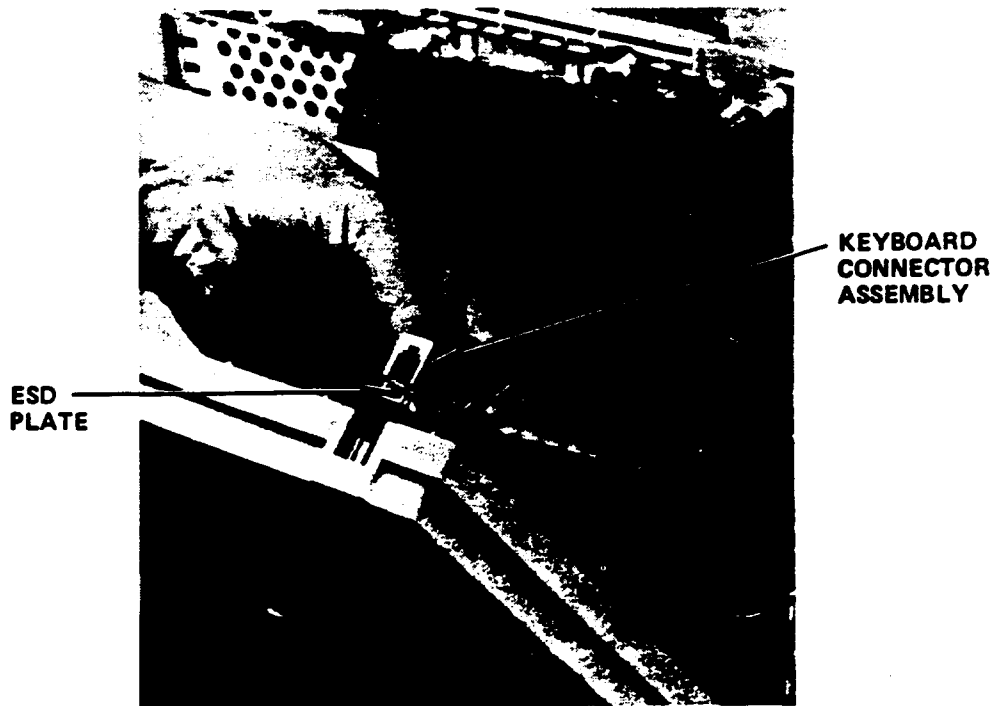

Figure 2-14. Removal of the Keyboard Connector
5. Pull the bottom cover away from the lower monitor assembly and remove the keyboard connector assembly (refer to Figure 2-14).
2. Remove the Keyboard Connector Assembly (jack and jack ESD plate) from the Bottom Cover (refer to Figure 2-14).